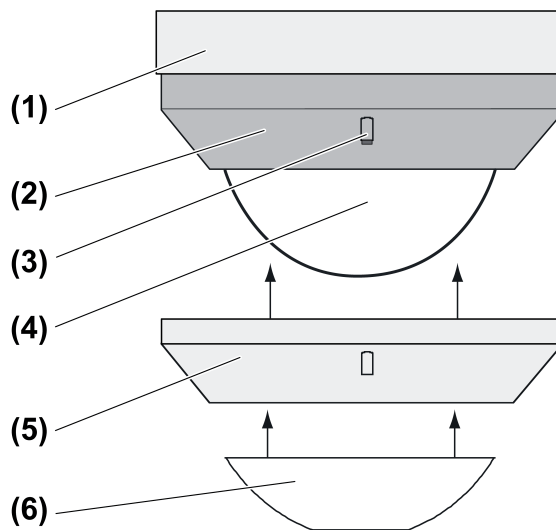

Figure 1
Behind the sensor window (4) are a red and a yellow LED (Figure 1) for indicating different states of operation.